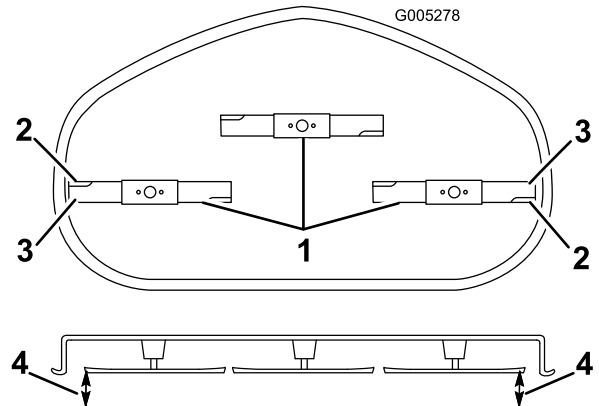

Figure 52
- Carefully rotate the blades so that they are all side to side (Figure 52).
- Measure between the outside cutting edges and the flat surface (Figure 52). If both measurements are not within 5 mm (3/16 inch), an adjustment is required; continue with this procedure.